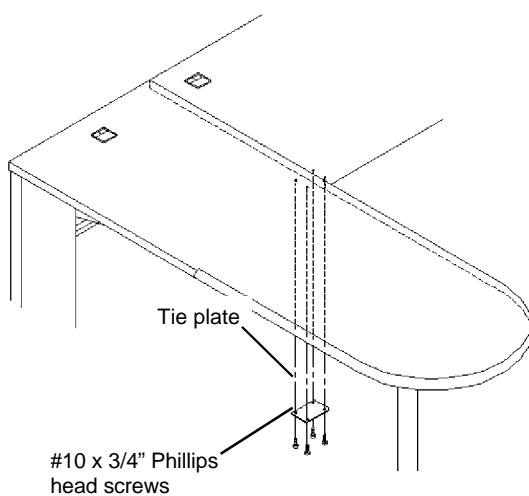

Figure 7
11. Install a Tie Plate as shown in **Figure 7**.